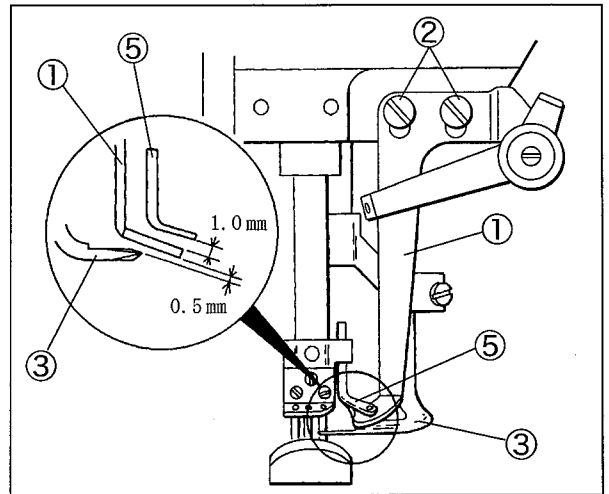

Fig. 47
- (1) Loosen the screws ② of the top cover thread guide ①. (Fig. 47)
- (2) Make the clearance between the top of the spreader ③ and the bottom of the top cover thread guide ① to 0.5 mm. (Fig. 47)
- (3) Set the hook ④ in the center of the slot of the top cover thread guide ① when the spreader ③ is at the extreme right. Then, tighten the screws ② securely. (Figs. 47 and 48)
- (2) Make the clearance between the top of the top cover thread guide ① and the top cover thread eyelet ⑤ to 1.0 mm when the needle bar is at the lowest point. (Fig. 47)